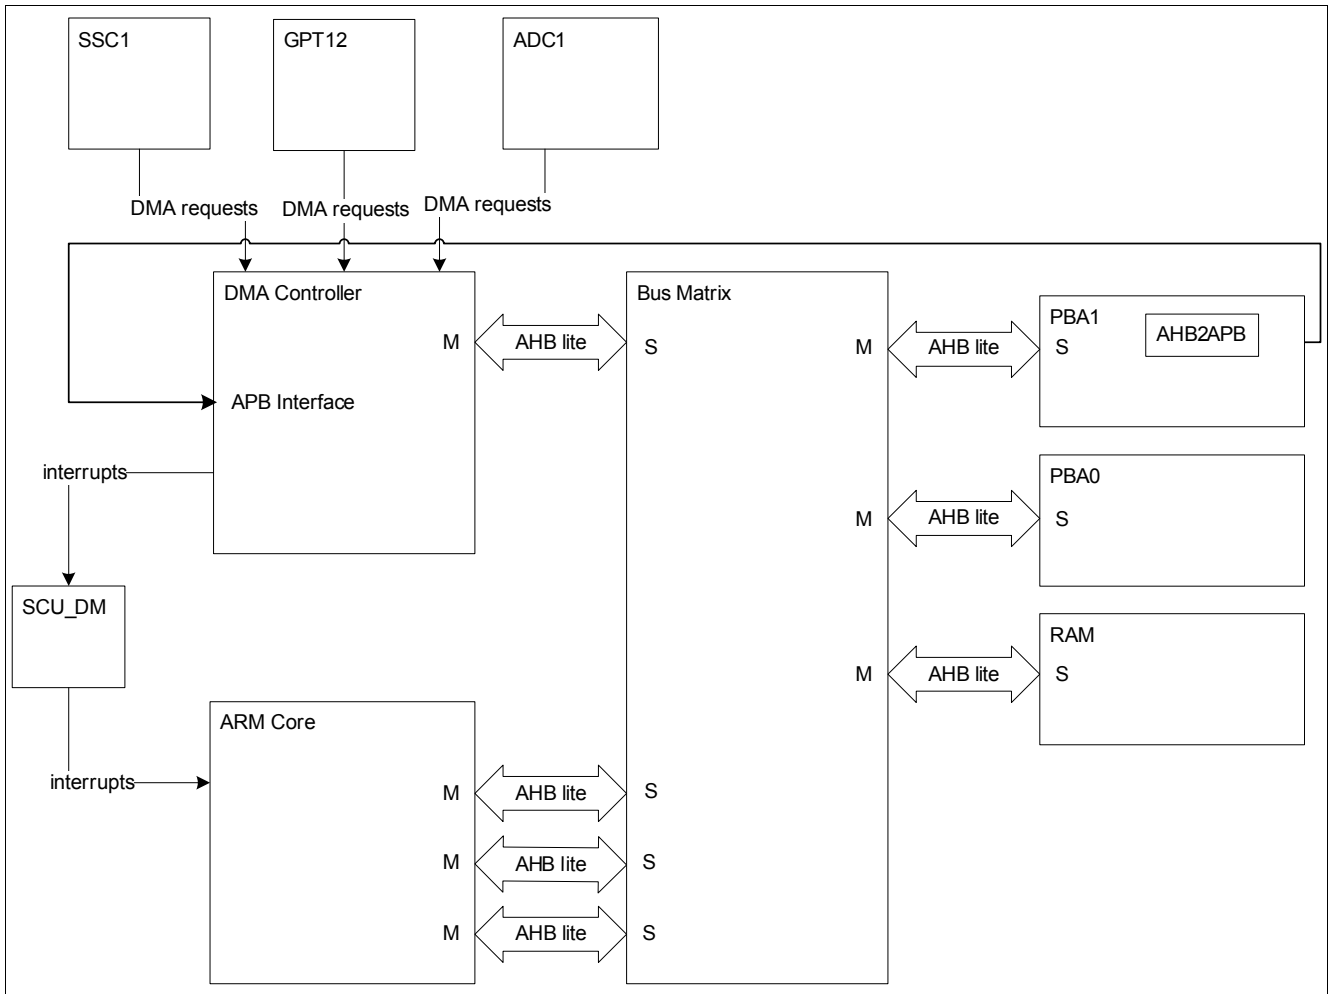

Figure 13 DMA Controller Top Level Block Diagram
**Figure 13** shows the Top Level Block Diagram of the TLE9867QXA20.